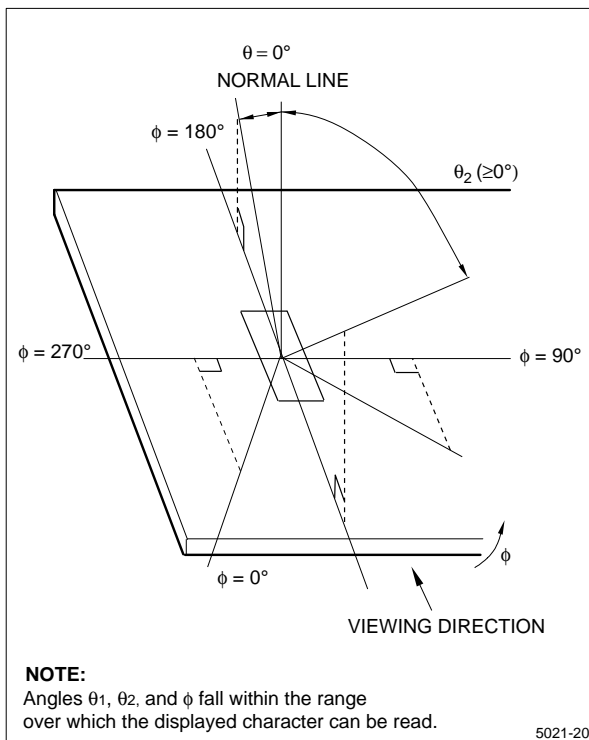

Figure 21. Definition of Viewing Angle
- The viewing angle range is defined as shown in Figure 21. $\theta_1 (<0^\circ)$ $\theta = 0^\circ$